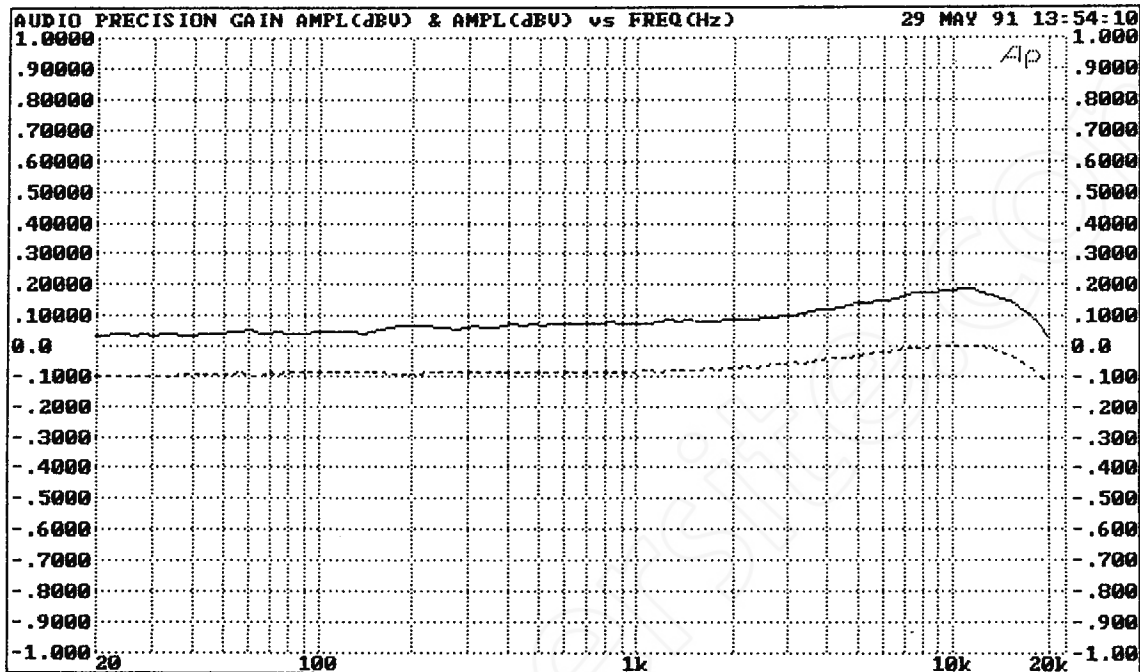

Figure 3: Frequency Response (Left Channel —, Right Channel -----)
- 2) Check response at 20Hz and 20kHz (+0, -0.5 dB). See Figure 3.